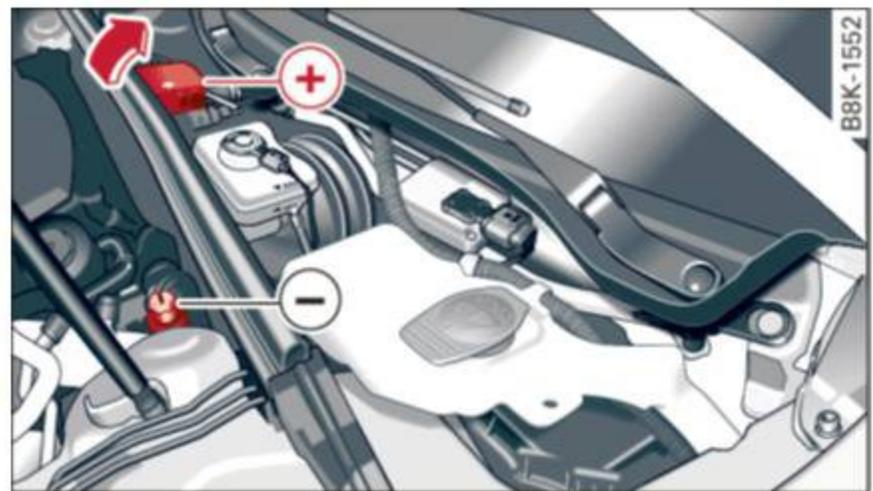

Fig. 166 Engine compartment: Connectors for charger and jumper cables
- ▶ Open the cover on the positive pole ⇒ *fig. 166*.